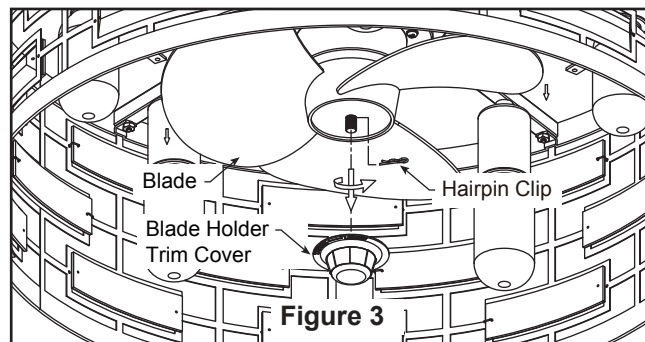

Figure 3
2. Carefully remove the blade holder trim cover, hairpin clip and retain them. After cleaning, reinstall the blade using the hairpin clip and blade holder trim cover. (Figure 3)